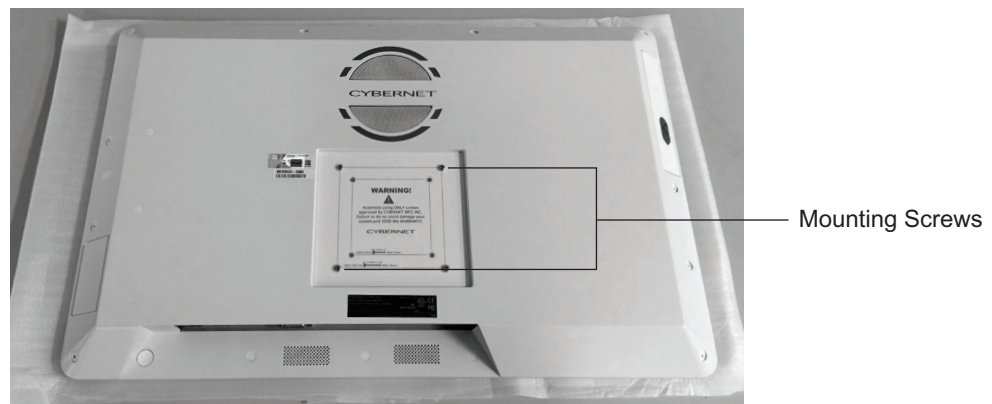

Figure 2: Back Side of the Touchscreen PC
2. Use the foam sleeve to protect the surface of the Touchscreen, and lay the Touchscreen PC face down on a flat surface. See Figure 2.